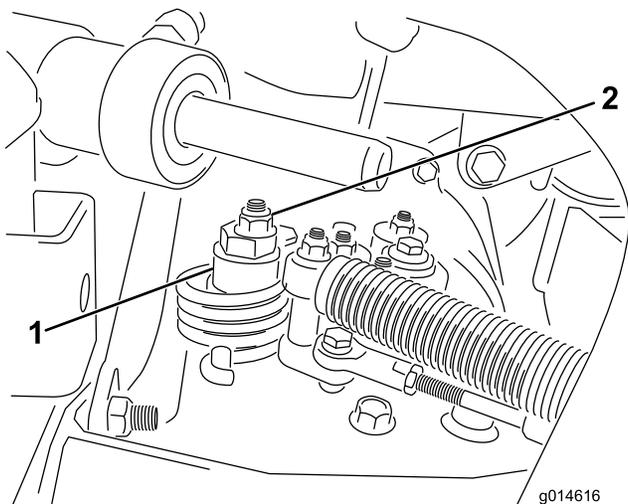

Figure 53
- A. Loosen the nut securing the eccentric to the top of the hydrostat (Figure 53).
- C. Rotate the eccentric until creep does not occur in either direction. When the wheel stops rotating, tighten the nut locking the eccentric and the adjustment (Figure 53). Verify the adjustment with the throttle in the Slow and Fast position.